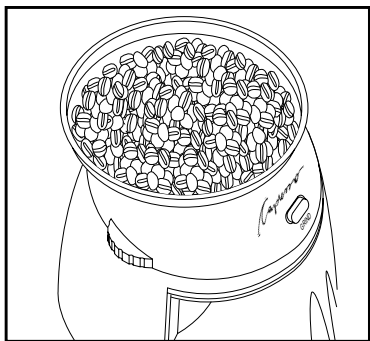
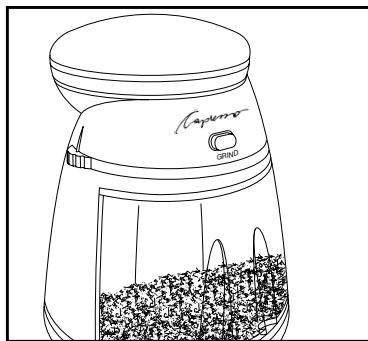

Fig. 2
Fig. 3
- d. Fill the bean container (G) with 3 to 4 scoops of coffee beans (Fig. 2) and add the bean container lid (Fig. 3)
- e. Turn the main switch (F) on. The red light will illuminate.
- f. Make sure the ground coffee container (C) with lid is in place.
- g. Push and hold the grind button (B) for two to three seconds, then let go. The Grinder will now grind all the beans in the container and then stop automatically.
1. Add the required amount of coffee beans directly into the bean container (Fig. 2). When grinding for drip coffee use 1 to 1 1/2 level scoops per 5 oz. cup of coffee, depending on how strong you like your coffee. When grinding for espresso use 1 1/2 to 2 level scoops per espresso shot.
2. Do not fill with more than 18 level scoops of coffee. **Attention:** the longer you grind the more "static" will build up. Grinding 12 scoops in the finest position (pos. 1) will take approx. 35 to 40 seconds, in the coarsest position (pos. 9) approx. 25 seconds. Grinding 18 scoops in the finest position can take 60 to 70 seconds, creating a lot more static, which makes small coffee particles "fly" around.
4. Place the bean container lid on top before grinding (Fig. 3).